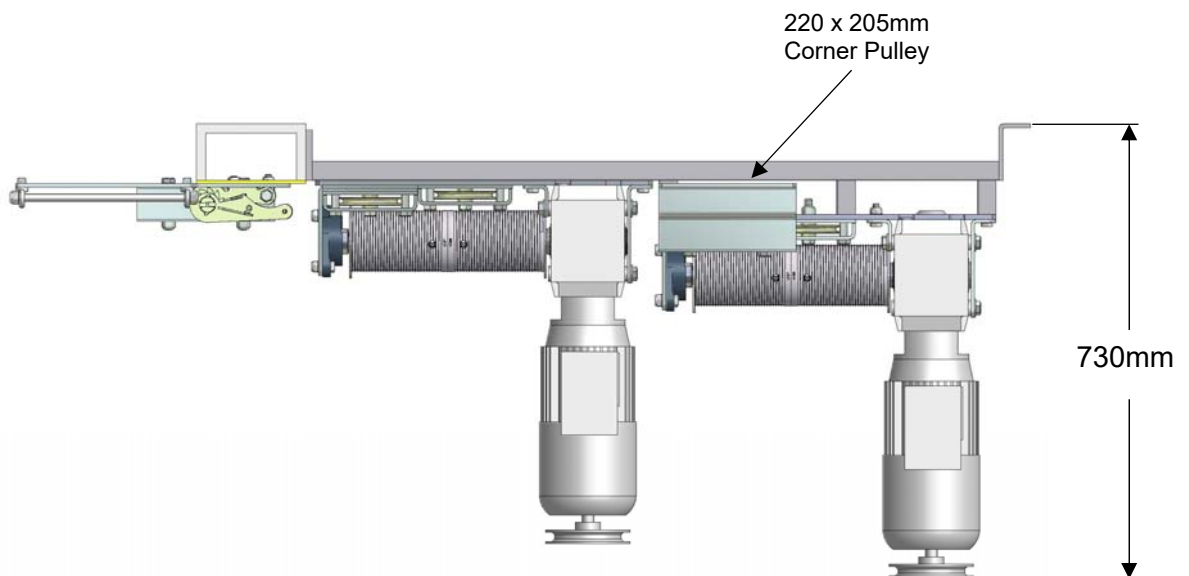

Figure 13a
14.2 Drives: Suggestion of layout is shown in Figures 13a and 13b, Note that:
- ❖ The fixing face of the corner pulley must align with the outside edge of the tracking, Figure 13a.